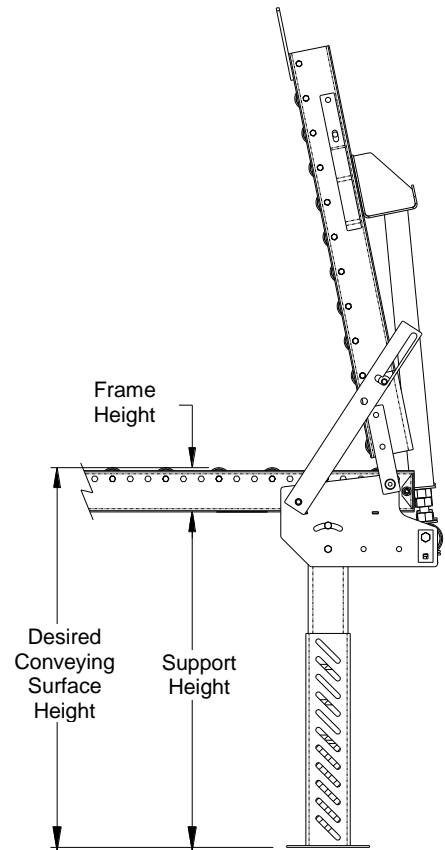

Figure 2.1 – Support Height Adjustment
- Set the support height. Subtract frame height dimension from desired conveying surface. See Figure 2.1. Adjust the support to this dimension by sliding inner and outer legs. Tighten leg bolts to maintain the set height.